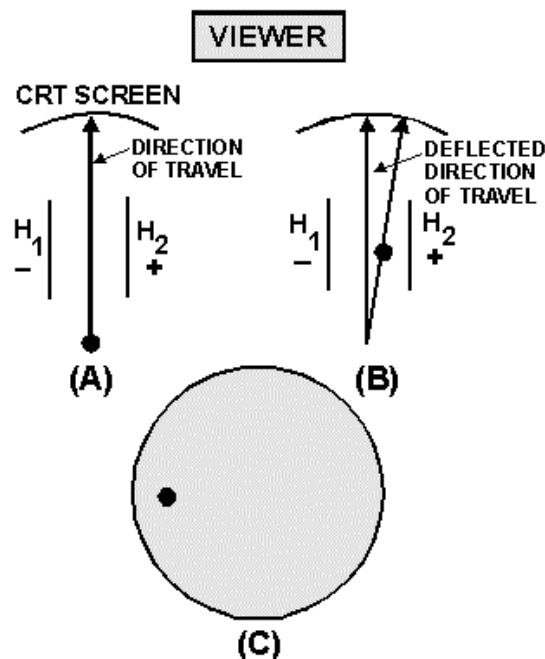

Figure 2-24.—Deflection in a CRT.
**ELECTROSTATIC DEFLECTION** uses principles you are already familiar with. Namely, opposites attract, and likes repel. Look at figure 2-24, view A. Here you see an electron traveling between two charged plates,  $H_1$  and  $H_2$ . As you can see, before the electron reaches the charged plates, called **DEFLECTION PLATES**, its flight path is toward the center of the screen. In view B, the electron has reached the area of the deflection plates and is attracted toward the positive plate,  $H_2$ , while being repelled from the negative plate,  $H_1$ . As a result, the electron is deflected to the right on the inside of the screen. You, the viewer, will see the spot of light on the left side of the CRT face (remember, you are on the opposite side of the CRT screen). This is shown in view C.